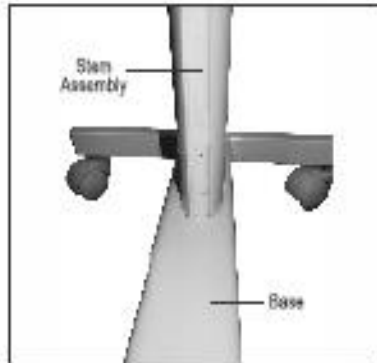
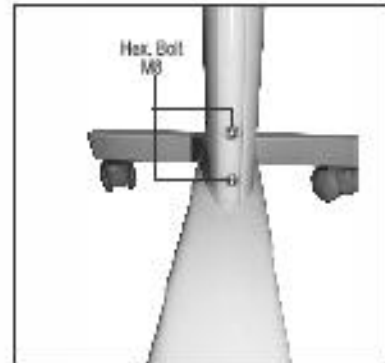

Fig 2
Fig 3
- Place the stem assembly on the base and slide the aluminum extrusion stem (Fig 2) and fix it with hex bolt M8 (Fig 3).